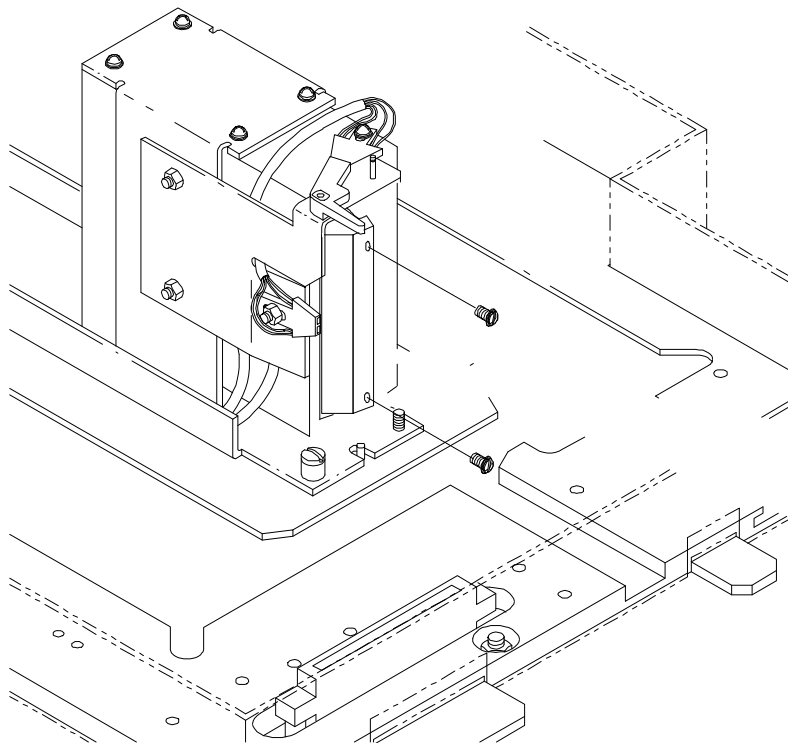

Figure 2. ABC Reader Prism lens Mounting
1. Using a small Philips screwdriver, remove two screws that secure the reader window to the metal frame. (See **Figure 2**.)
3. Place the prism lens onto the red, flat plastic window as shown in **Figure 2** and align the two screws with the holes in the frame.
5. Remove the two screws holding the prism lens in place. Be careful not to scratch the prism lens or touch the prism lens surface. See **Figure 2**.